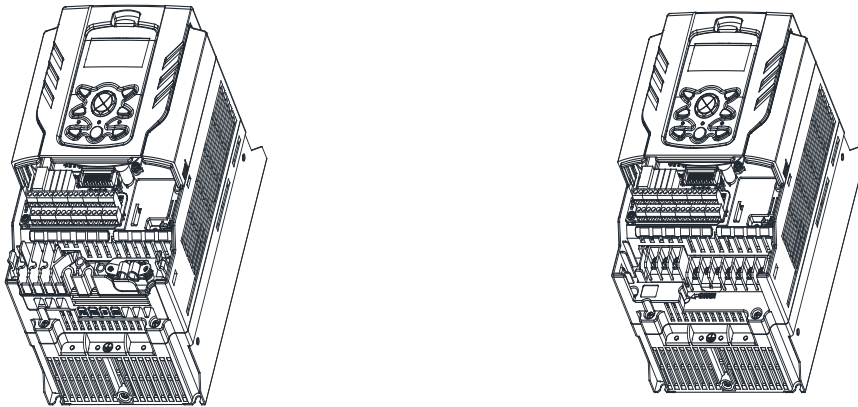

Figure 1. Remove power cover and cable guide
- ① Remove the power cover and cable guide of the product as shown in Figure 1.